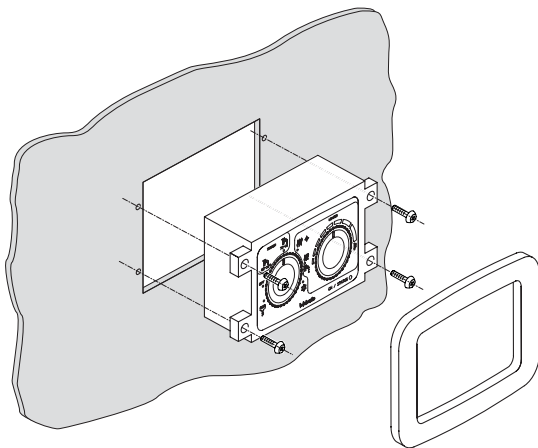

Fig. 601 Manual Control Panel (dis)assembly
2. Remove Control Panel as shown (see Fig. 601).